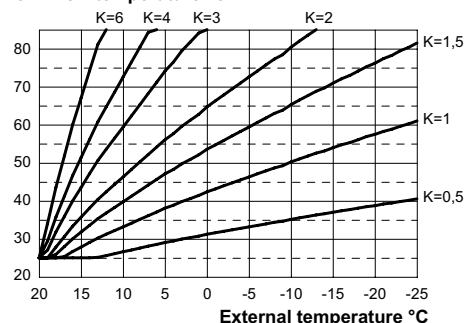

Fig. 7.19
If the boiler is **EQUIPPED** with the remote control (optional) refer to Fig. 7.19.
the flow temperature (Fig. 7.19).
E.g. In order to have a flow temperature at the heating plant of 60°C with an external temperature of -5°C, set a K at 1.5 (sectioned line in Fig. 7.19).
- Using keys 12 or 13 it is possible to change the value of parameter 15 from a minimum of **01** to a maximum of **60** based on the selected bend of the K coefficient in Fig. 7.19 (the value read on the display corresponds to K coefficients decimal values).